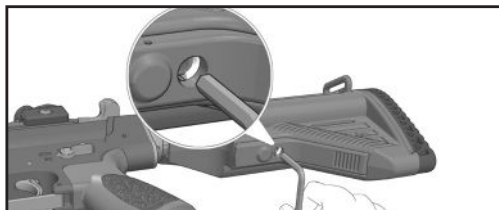

Fig. 51 – Buttstock Tightening Screw
- b. Check to ensure that the buttstock tightening screw is loose before attempting to remove the buttstock. If tight, insert the large tip (3mm hex) of the MR762A1 Disassembly Tool into the tightening screw and rotate (but do not completely remove) counter clockwise (Fig. 51). For cleaning and general maintenance purposes, it is not necessary to remove the buttstock.